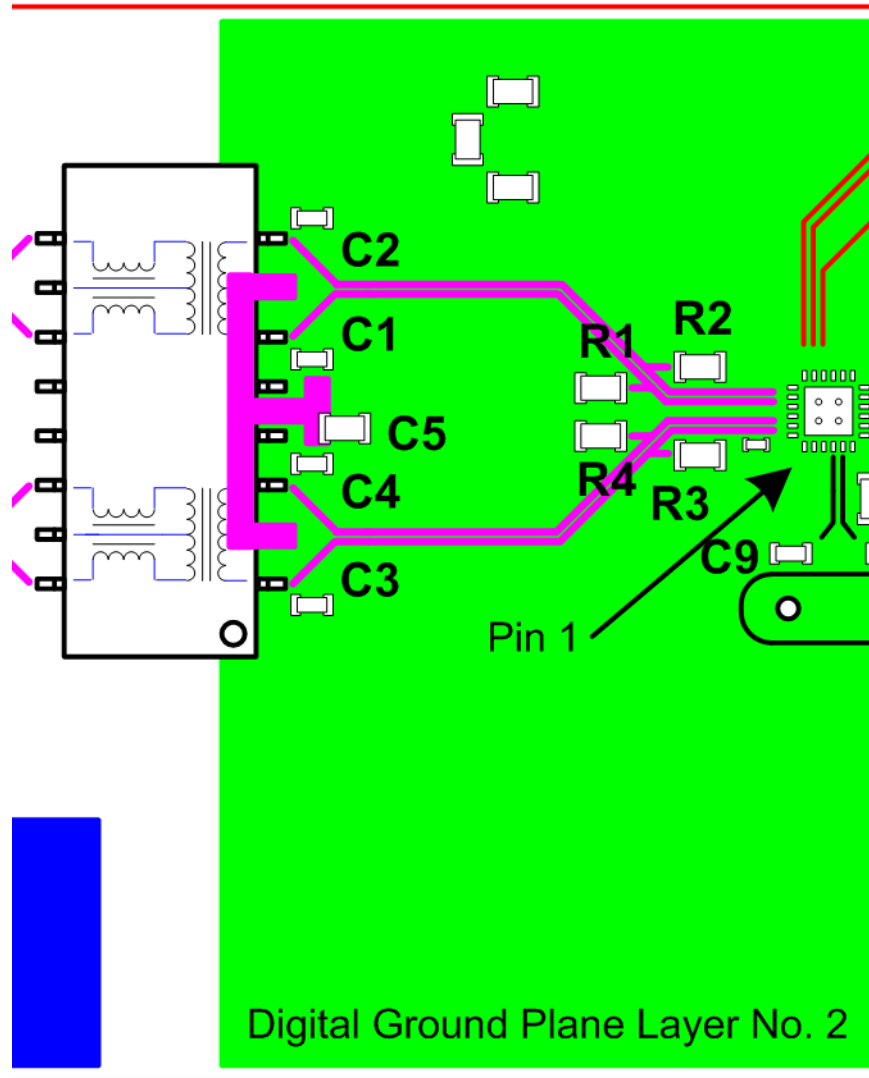

Figure No. 1
4. Refer to Figure No. 1 for differential pair routing details.